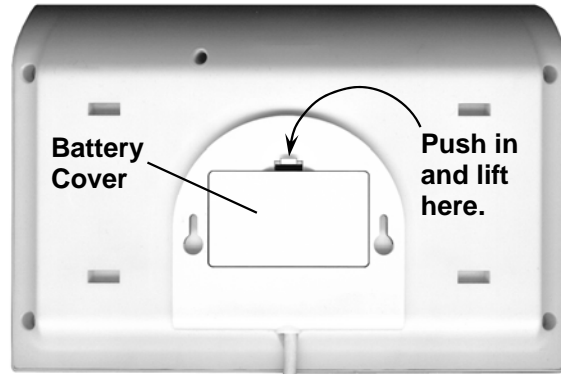
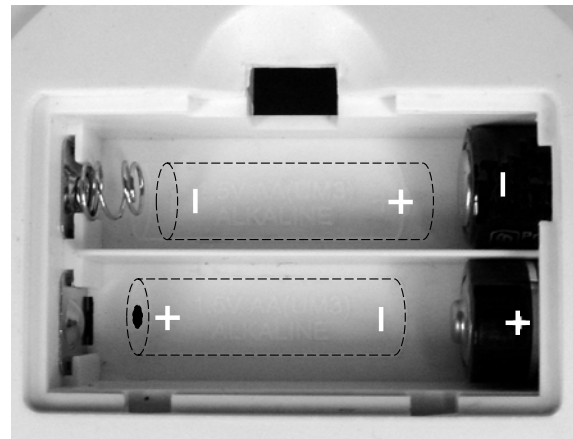

Figure No. 10
Figure No. 11
4. To install or replace the batteries, first remove the battery cover by pushing in on the tab and lifting it up. See Figure No. 10.
5. If installing new batteries, proceed to step 6. If replacing the batteries, remove all four (4) batteries from the battery holder, then proceed to step 6.
6. Install the four (4) new "AA" size batteries in the battery holder, noting the polarity markings located in the battery holder. See Figure No. 11.